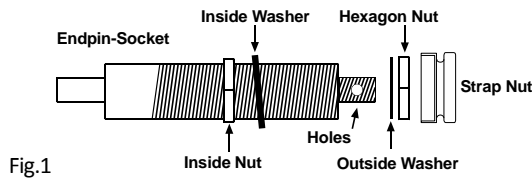
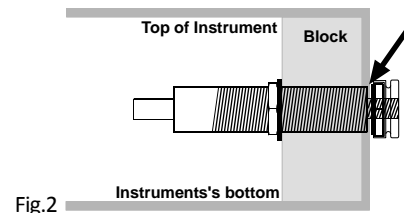

Fig.1
Fig.2
(Fig.1): Mount the endpin as shown. Pay attention on the washer! Adjust the inside nut so that the larger threads end just below the surface of the instrument (Fig.2, arrow). Put a small screwdriver or similar in the two side holes of the endpin socket to lock it during screwing the hexagon nut.
Fig.1 shows the amount of the left and right signal controlled by the PAN control
(3) BT-T CONTROL
The BT-T Control is used to control the tone for the lower treble strings [G-B-E]. It works like a bass/treble rocker: Middle position: Flat sound. Fig.2: If you turn the pot away from the center positions either bass or treble increases. If bass is increasing (A) the treble will stay flat! Likewise, if you increase treble (B): Bass will stay flat
(4) BT-B CONTROL: